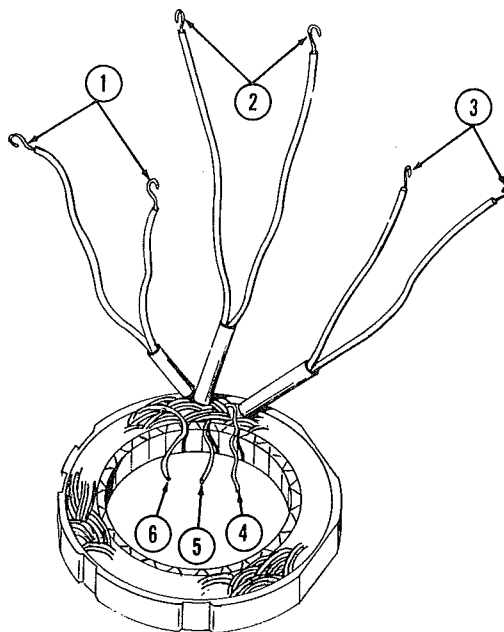

FIG. 81—STATOR LEAKAGE AND CONTINUITY TEST POINTS
This test checks for shorts or leakage between stator coil windings. To make the test, the winding action must be separated as shown in Fig. 81. An ohmmeter or 24-volt or 120-volt test lamp may be used.
a. Connect one of the ohmmeter or test lamp probes to test point 4, as shown in Fig. 81. Connect the other test probe to test point 5 and then to test point 6. Resistance should be infinite or test lamp should not light.
c. Measure resistance of each winding in stator between test points 4 and 1, 5 and 3, and 6 and 2, in Fig. 81. Resistance should be approximately 0.1 ohm.